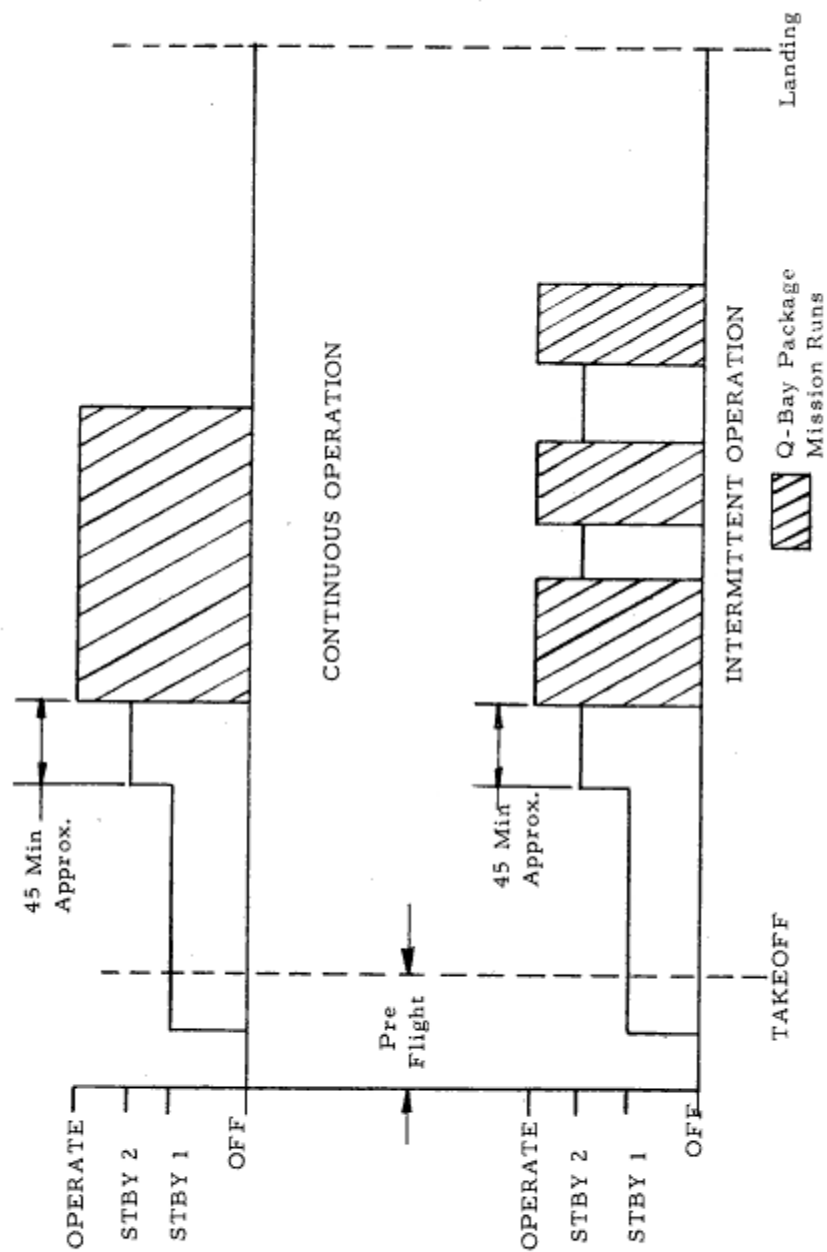

Figure 1-9. Typical Type I Mission Profiles
- 1-24. Two typical Type I mission profiles are shown in Figure 1-9. Mission 1 shows continuous operation of the package for a segment of the entire mission. Mission 2 shows intermittent operation of the package for arbitrary portions of the mission. In practice, the package will always be placed in the standby 1 mode at some-time during the final pre-flight check and shall remain there until standby 2 switch is selected. Specific flight instructions will state the exact sequence of operation of the status switch for the standby 2 and operate modes, as shown in Figure 1-9.